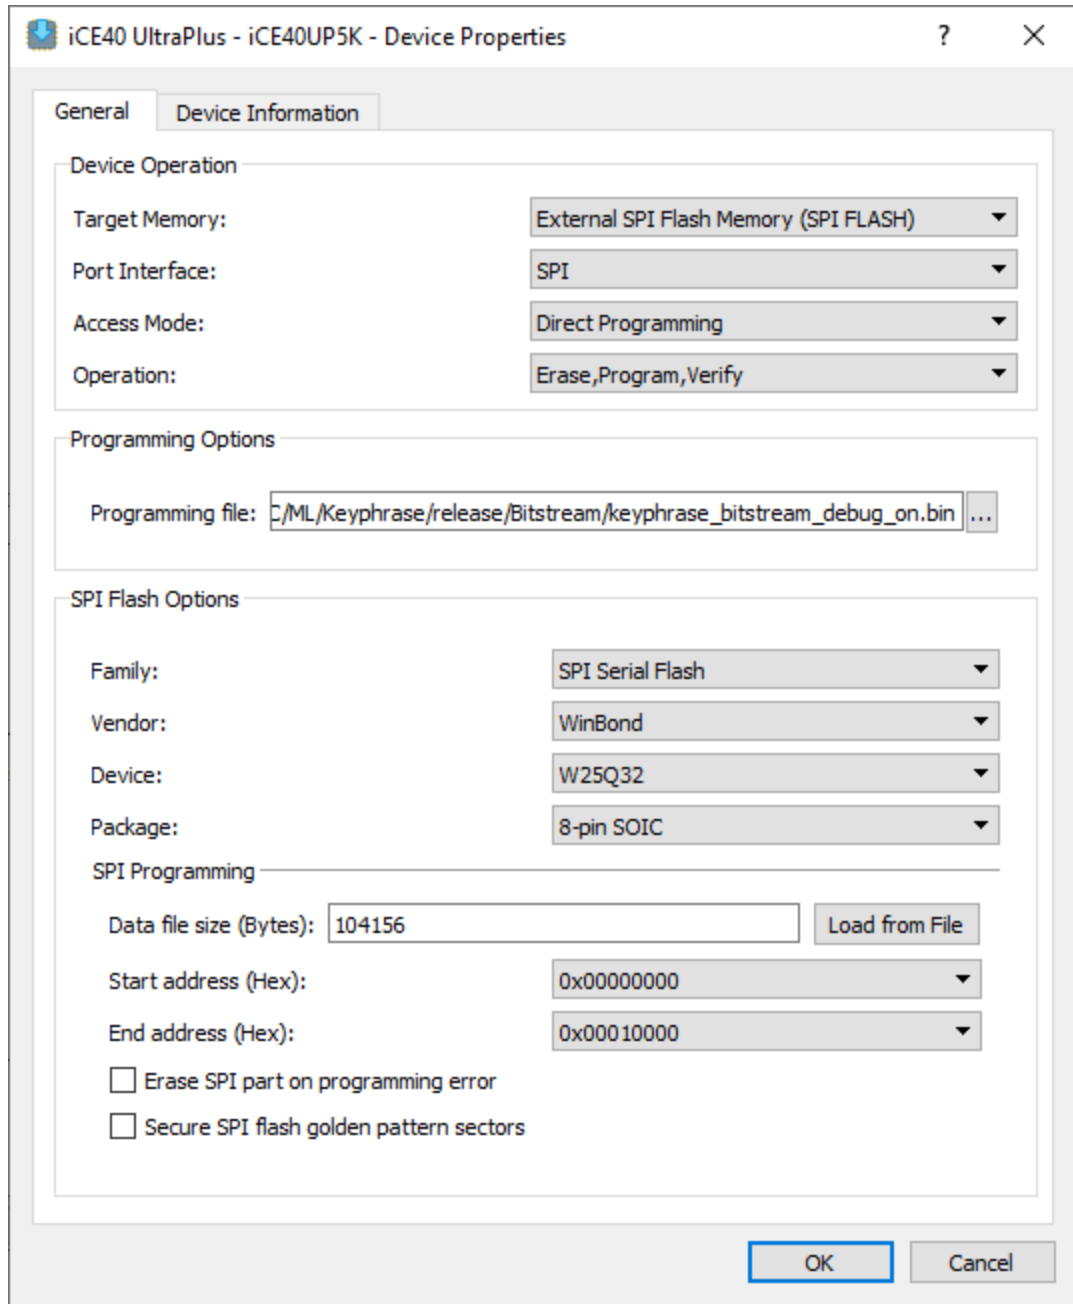

Figure 4.5. Bitstream File Settings
10. To program the bitstream file, select the options below as shown in Figure 4.5.